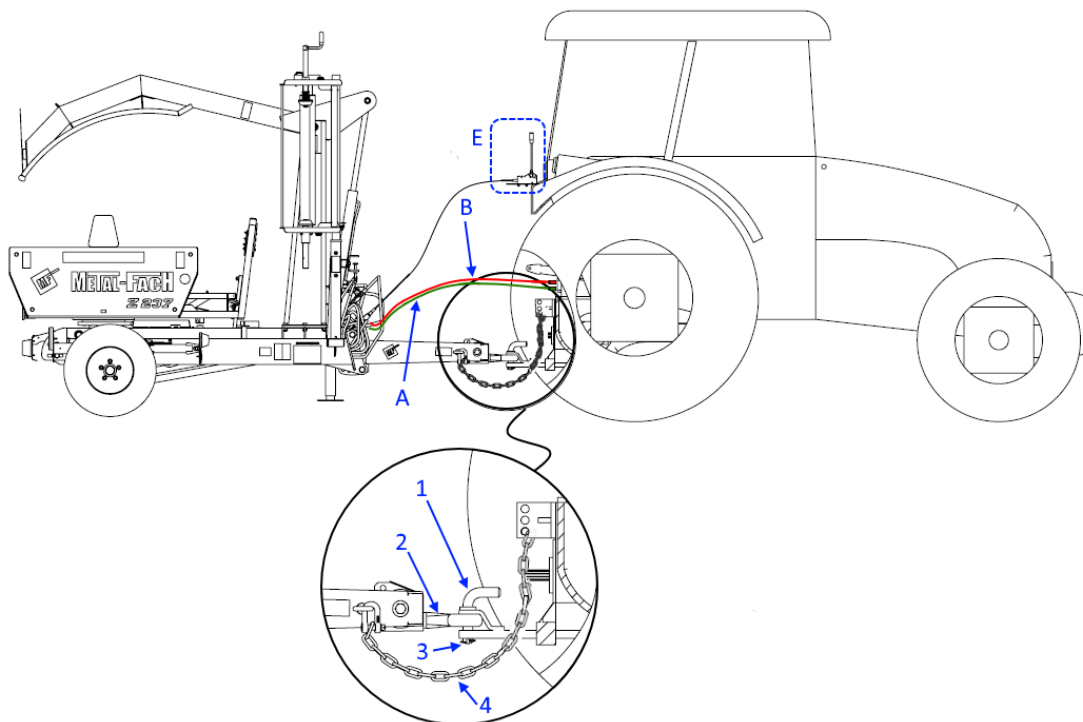

Figure 4. Connecting the hitch and drive of the Bale Wrapper
- Disconnect the drawbar eye from the transport hitch of the tractor. Detach the additional chain that links the hitch with the tractor (**Fig. 4 - 4**).